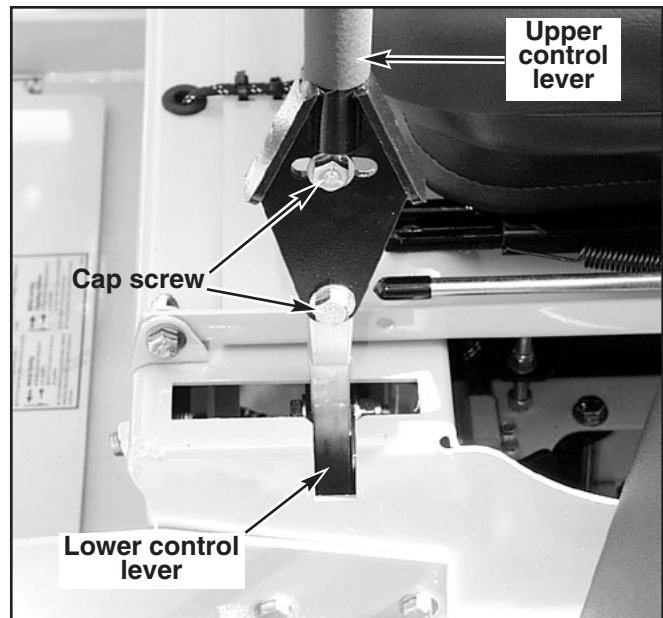
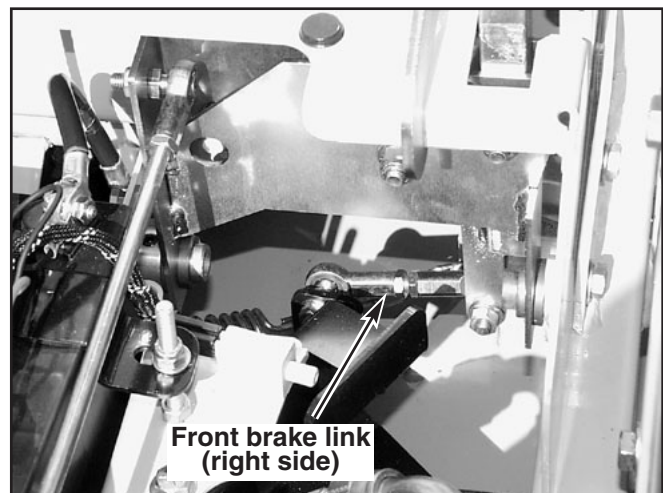

Figure 11-23
Figure 11-24
8. After adjusting for neutral it may be necessary to re-adjust the steering dampener and/or the control lever stop. Fig. 11-23 or Fig. 11-24
The control levers can be adjusted for operator comfort. By loosening the cap screws that attaches the upper control lever to the lower lever (Fig. 11-23), the upper control lever can be pivoted to fit the operator's personal preference.
NOTE: The front brake link is not adjustable. Fig. 11-24